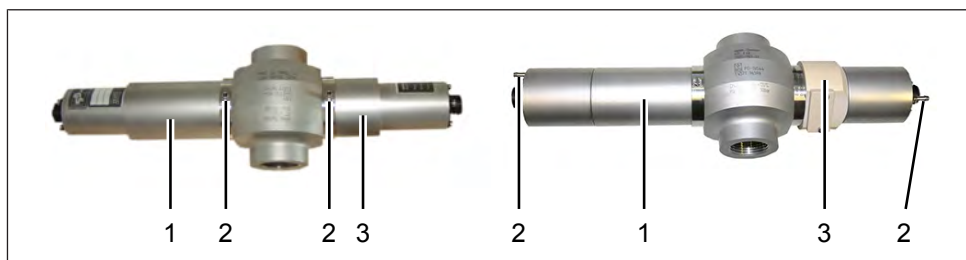

Fig. 11: Air purge connections
1. Loosen the sensor assemblies (1, 3 in Fig. 11) turning each 2–3 turns anticlockwise.